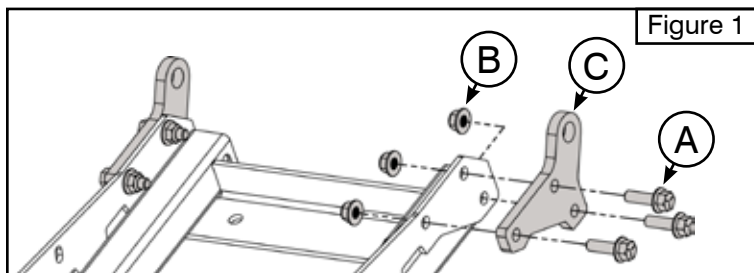

Figure 1
1. Remove and discard the existing standard pin attachment brackets (A) and hardware (B) as shown in **Figure 1**.
1. If installed, remove pin attachment brackets (C) and hardware (A and B) as shown in **Figure 1**. If not installed, proceed to **Step 2**.